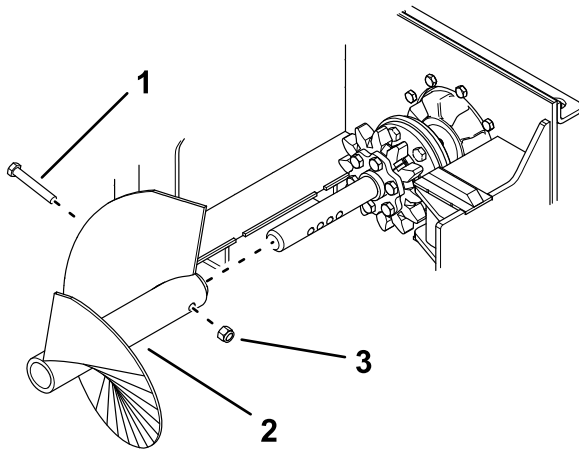

Figure 13
4. Remove the bolt and locknut securing the spoils auger and remove the auger (Figure 13).